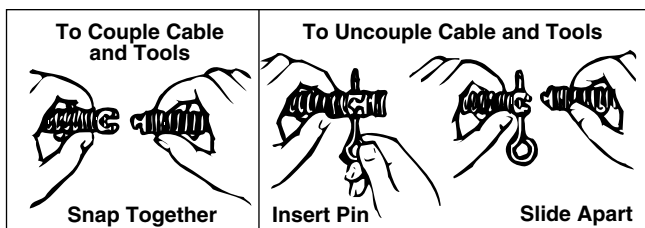

Figure 4 – Coupling and Uncoupling Tools
6. Select and install the proper tool to the end of the cable. The T-Slot Coupler allows the tool to be snapped into the cable coupler (*Figure 4*). To remove tool, use the pin key to depress the plunger and slide the coupling apart.